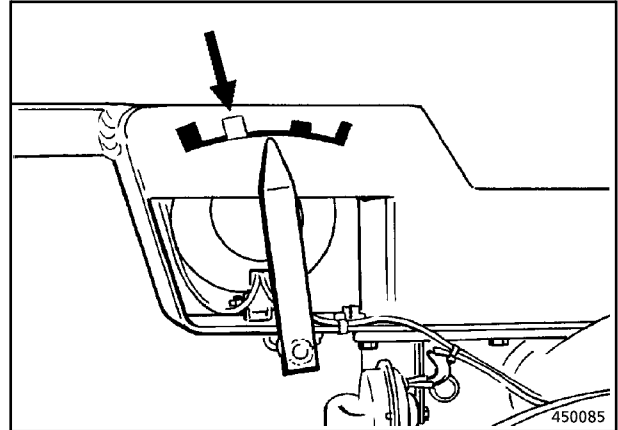

Fig. 7
- Raise front blade with control lever (71, position 10) until the blade position pointer (Fig. 7) aligns with the yellow mark for travel on the highway.